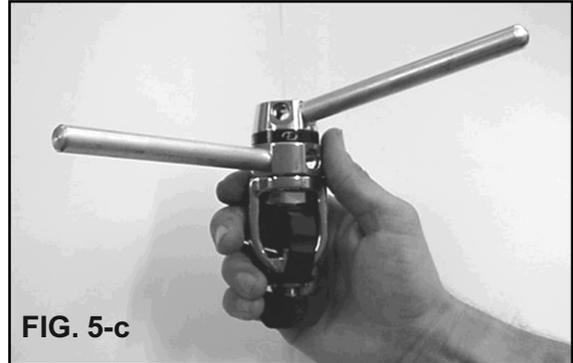

FIG. 5-c
3. Prepare to remove the End-cap (22) by inserting one LP tightening bar into one of LP port in the end cap and one HP tightening bar into one of the HP ports in the body (13) Refer to **Figure. 5-c**